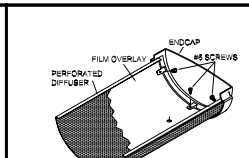

Fig. 12
10. **Insert the #6 screws (12)** in the tab holes and secure the End Cap in place. Repeat procedure for other end cap. **See Fig. 12.**